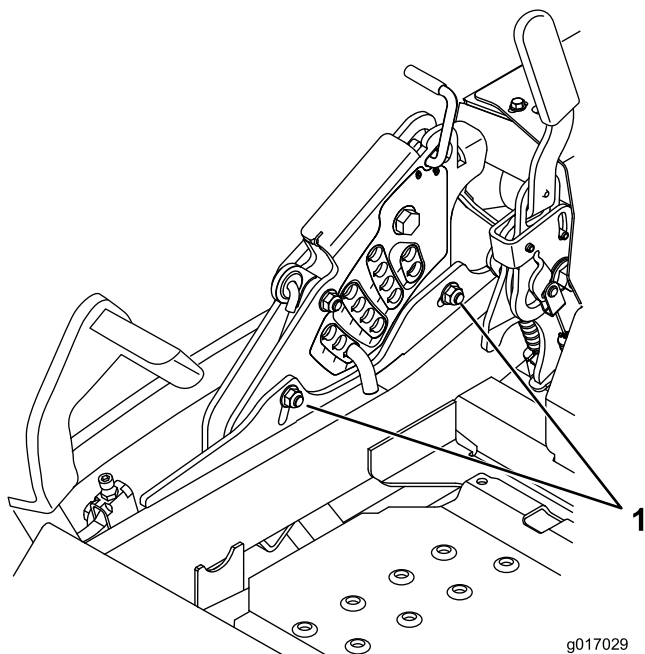

Figure 88
12. To adjust the single point system, loosen the two bolts at the bottom of the height of cut plate. Refer to Figure 88.
14. Tighten the two bolts at the bottom of the height of cut plate (Figure 88). Torque to 27-33 ft-lb (37-45 N-m).